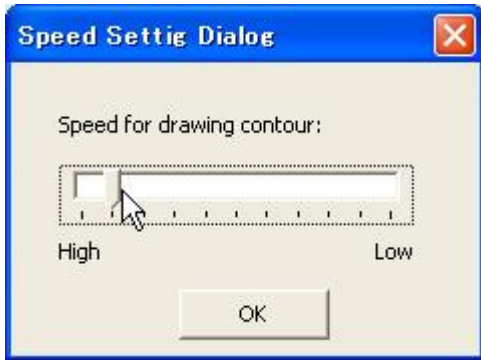

Fig. 36
37. (Optional) You can change speed for drawing a contour. Select "Speed" from the "Config" menu, the "Speed Setting Dialog" window will appear (Fig. 36). The speed can be changed by dragging the pointer on the ruler bar in the "Speed Setting Dialog" window.